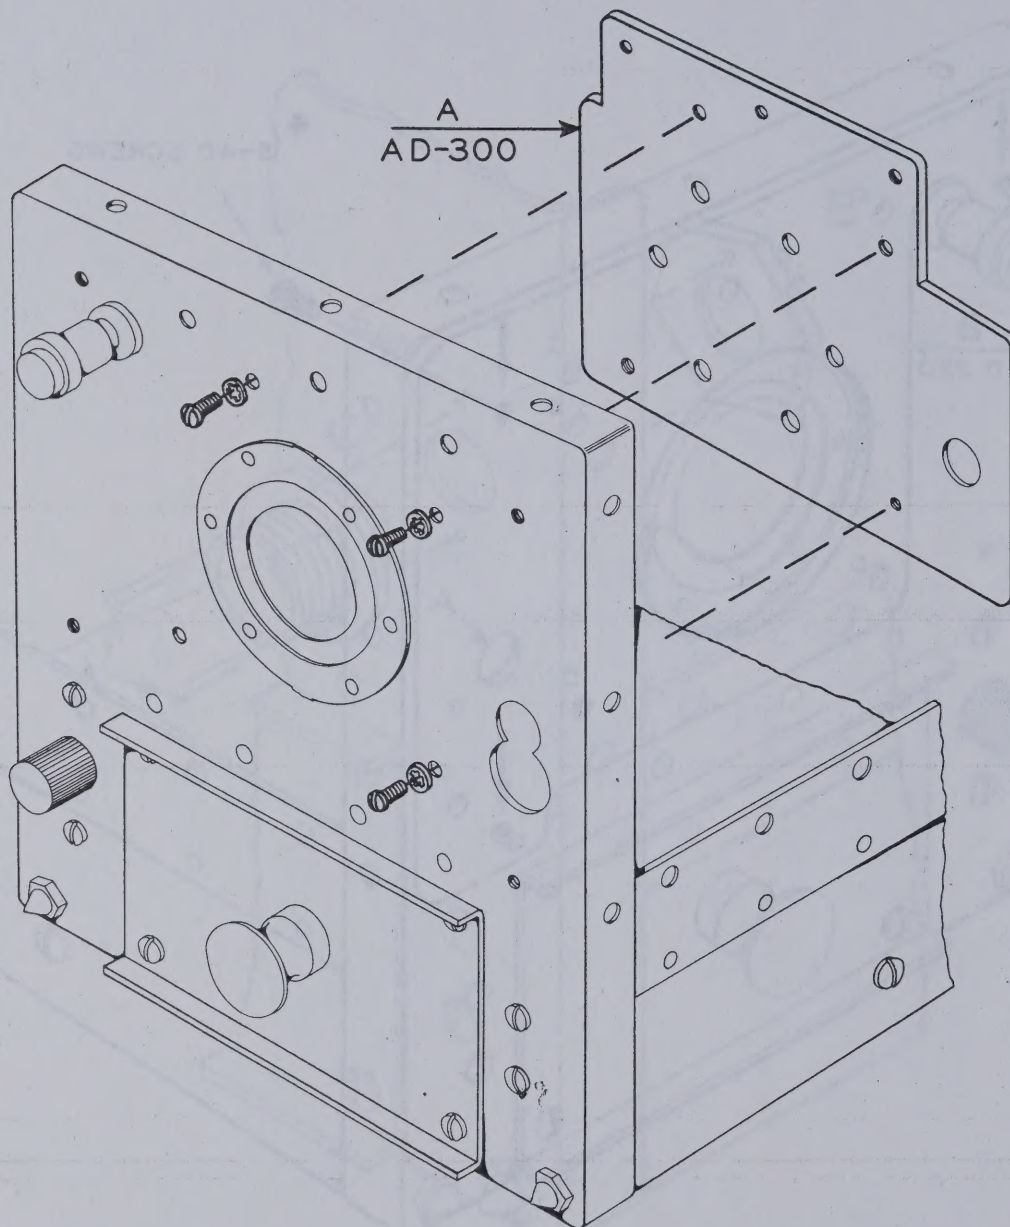

**Figure 18 — Template for Drilling Front of Receiver
16. (FIG. 18) Screw the template part AD-320 (B) to the front of the receiver. Utilize the holes in the condenser lugs, using the screws furnished.
17. (FIG. 18) Drill all the holes marked (C) according to the template drillings with #27 drill.
18. (FIG. 18) Drill hole (A) to minimum of $\frac{3}{8}$ inch. Remove the template.